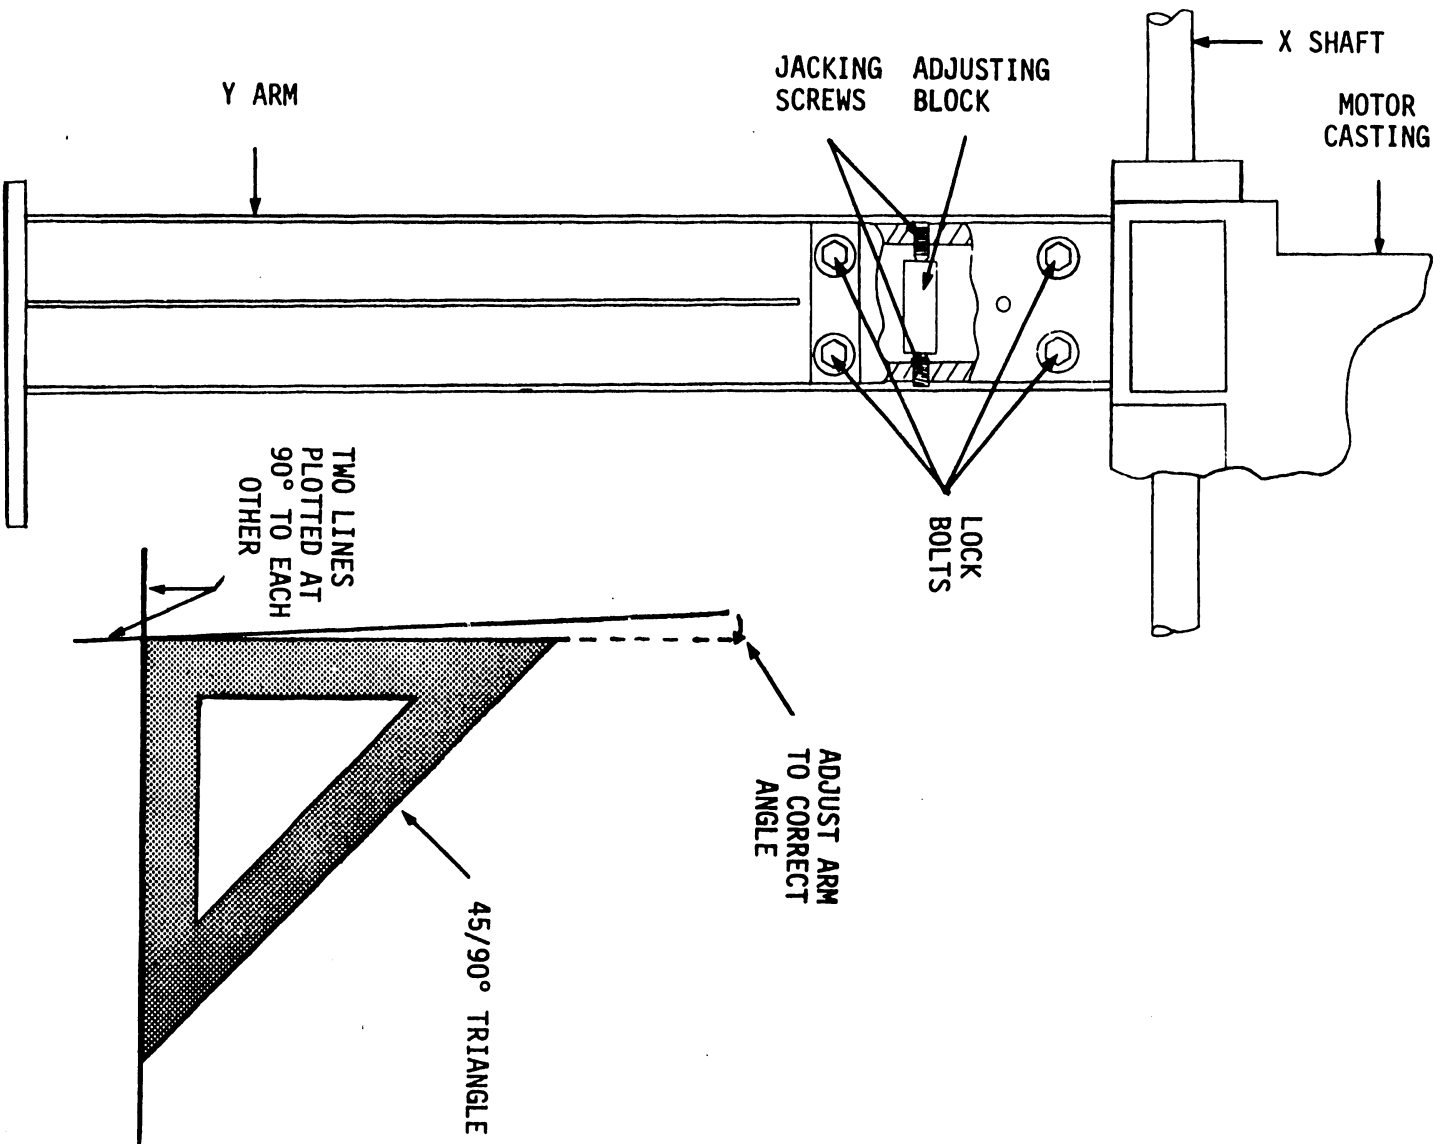

FIGURE 18
- 1) The Y arm must be square to the X shaft within .010" over a 30" length. This is checked with a large triangle placed on a 90° plot as shown in Figure 18. The trial plot may be generated by subroutine 0014 on tape #8560.
- 2) To adjust the Y arm, loosen the lock bolts on the motor casting where it connects to the Y arm, and shift the adjusting block by loosening one jacking screw and tightening the other. See Figure 18.